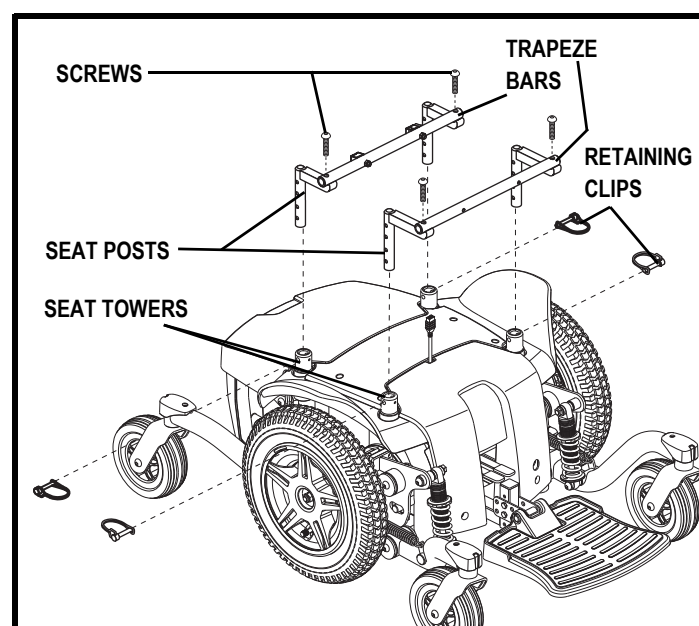

Figure 14. Seat Height Adjustment - Trapeze Bars
6. Loosen the setscrews on the seat towers. See figure 14.
7. Loosen the screws that attach the trapeze bars to the seat posts. See figure 14.
8. Remove the retaining clips that secure the seat posts to the power base. See figure 14.
13. Tighten the setscrew in each seat tower. See figure 14.